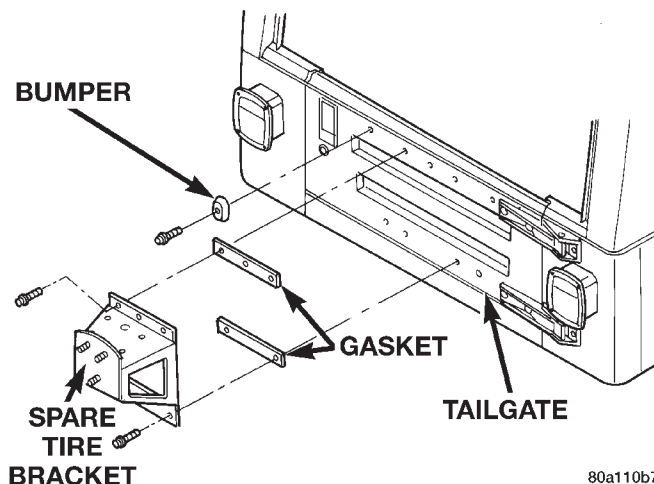

Fig. 79 Spare Tire Bracket
- (2) Remove the bolts that attach the tire bracket to the tailgate (Fig. 79).
- (3) Disconnect CHMSL.
- (4) Remove the bracket and the gaskets from the tailgate.